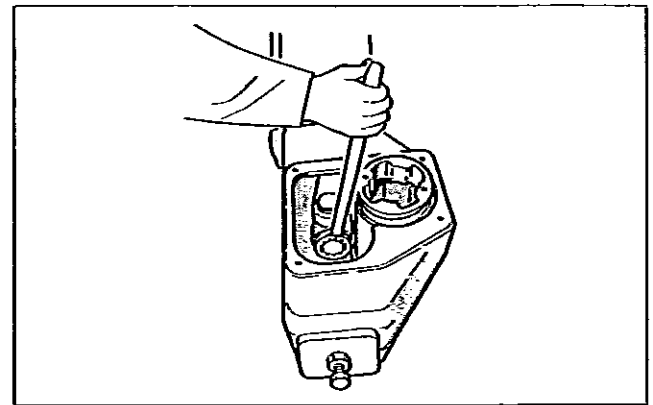

Fig. 10. Opening the fastening screw of the actuator bearing unit
- Remove the cylinder end side stop screw (26).
- Remove cylinder end (44).
- Remove housing cover (2).
- Unscrew the bearing screw (29) and the cylinder fastening screws (31) from the cylinder base (6) side, see Fig. 10. If the piston turns, do not prevent the turning with the piston fastening nut; send the entire actuator to the manufacturer to be repaired. It is very dangerous if the lock welding of the piston fastening nut is broken!
- Remove piston rod seal (16) and bearing (22). Clean the seal space.
- Remove cylinder end side stop screw (26).
- Open bearing unit (5) fastening screw (29). See Fig. 10.